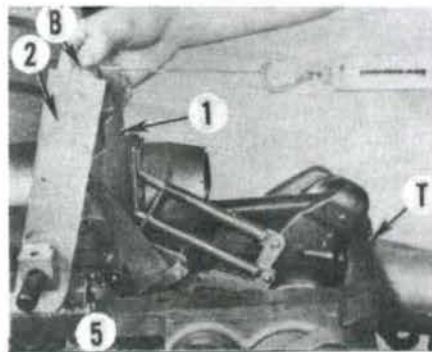

Fig. 225—View showing test using spring scale, MFN 1080-D gage tool (2) and MFN 970 gage block (T). Refer to text.
**221. POSITION CONTROL LINKAGE.** To adjust position control linkage, first move draft control lever to fully "UP" position on quadrant and place position control lever against transport stop. Position gage tool (MFN 970) with side marked .636 between rockshaft arm and lift cover casting as shown at (T—Fig. 225). Using a spring scale, apply 1.36 Kg (3 pounds) pull to vertical lever (1). The vertical lever should lightly contact bushing (B).